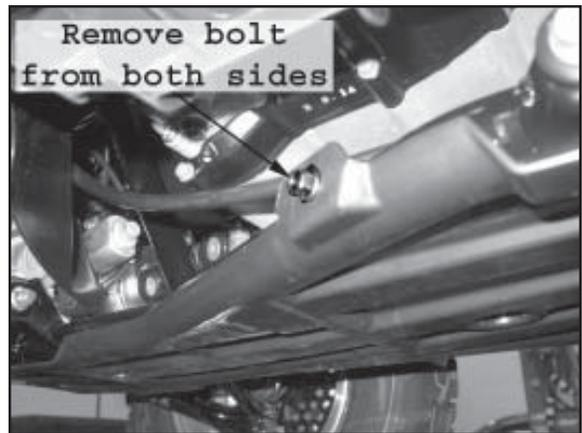

Figure 3 Remove Bolts in SkidPlate
1. Remove the two bolts, located just behind the front wheels, that hold the skidplate to the chassis as shown in Figure 3. Pull back the protective plastic to get to them.